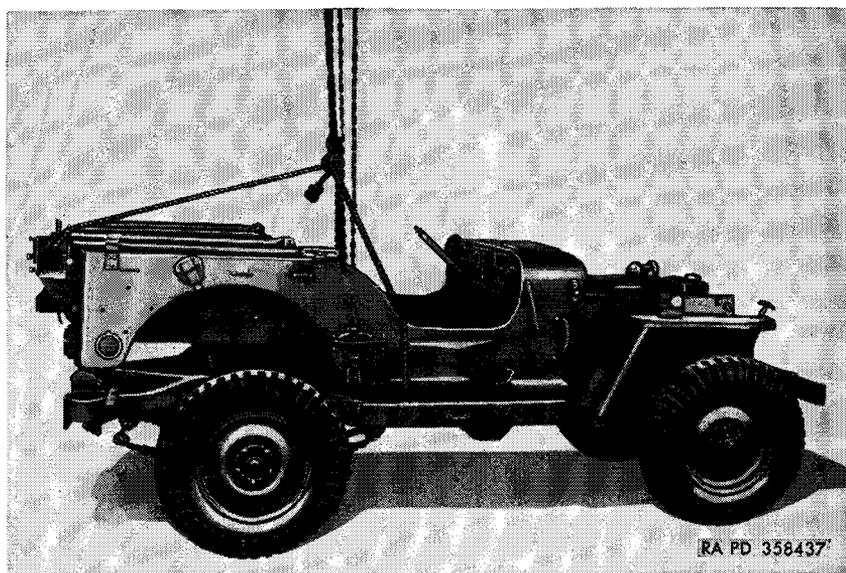

Figure 19. Removing body from frame.
j. Remove Body (fig. 19). Thread a rope between the body and frame in line with the driver's seat, leaving enough rope extending on each side to make a three-way lifting sling. Insert a suitable lifting device into the sling and slowly raise the body off the frame. While raising the body, move it toward the rear of the frame, until the steering wheel jacket is clear of the body. Move chassis out of the way and lower body to truck or floor. Remove body shims from frame.
a. Place Body in Position on Frame (fig. 19). Install a rope sling as prescribed for body removal in paragraph 30. Place the body shims on frame. Position the body over the chassis. Line up the steering wheel jacket with the hole provided in floor plate of body. Lower the body and, at the same time, roll the chassis under the body so as to follow the angle of the steering wheel jacket, until the body rests on the frame.